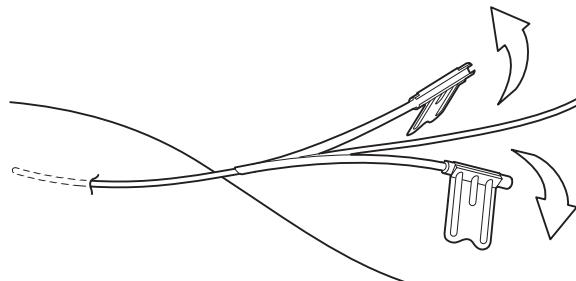

Figure 7
**NOTE:** Pinch together the green fins on the needle, then pull the fins apart and split the needle away. See Figure 7.